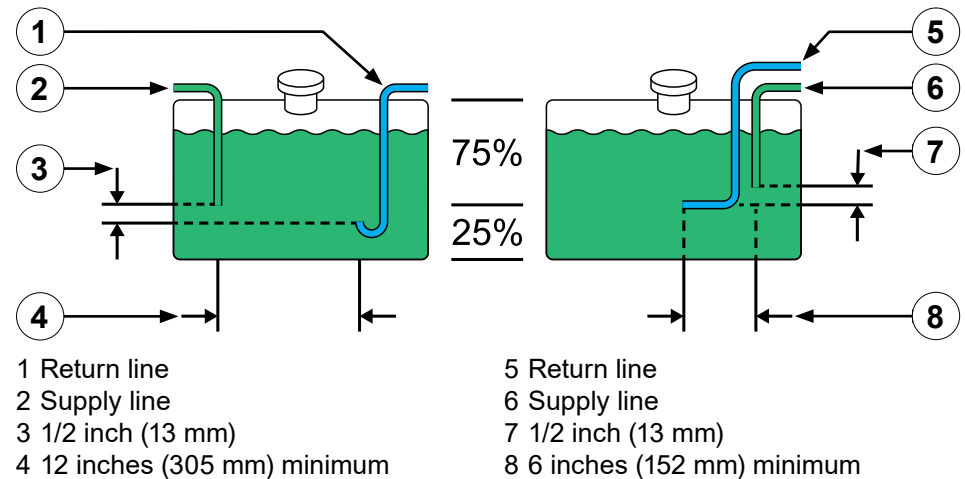

Figure 17
- Use **Figure 17** to configure the supply and return lines when connecting to the apparatus fuel tank.